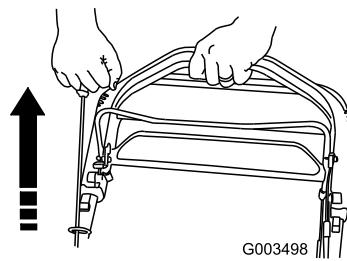

Figure 22
3. Pull the recoil starter (Figure 22).